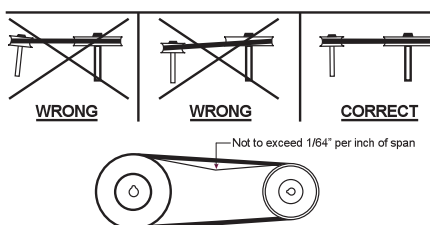

FIGURE 1: PULLEY ALIGNMENT
2. If unit is supplied without the motor, belt(s), and pulleys, while ventilator is on its side, mount motor and install the sheaves and belt(s). See Figure 1. Connect power cable to motor as indicated on motor name plate or terminal box cover. Allow sufficient slack in power cables for belt tension adjustment.